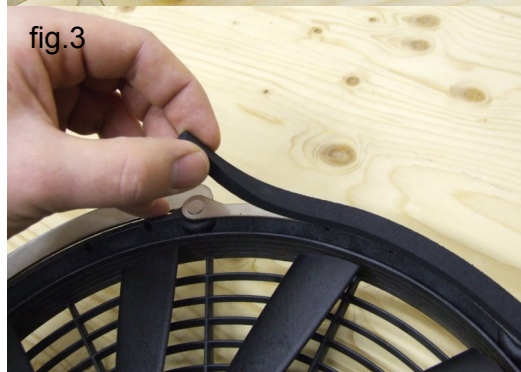

fig.3
3. Turn the assembly over, cut to length and mount 2 strips of self adhesive foam on the back of each flush mount (fig.3)